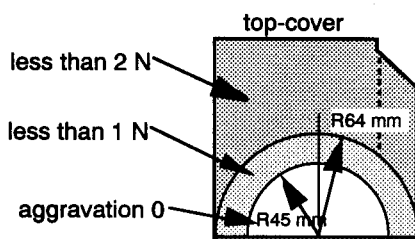

Figure 2
- (3) Care should be especially paid for the heat effect. Keep the air ventilation and shut out heat from the environmental condition. Then, install the equipment where the environmental temperature around the equipment does not exceed 50 °C.
- (4) Do not add the force beyond the recommended value on the top and bottom cover of the equipment. (The recommended value range for the top cover is shown in the under Figure 2) (For the bottom cover, the recommended value should be less than 2N on all areas.)